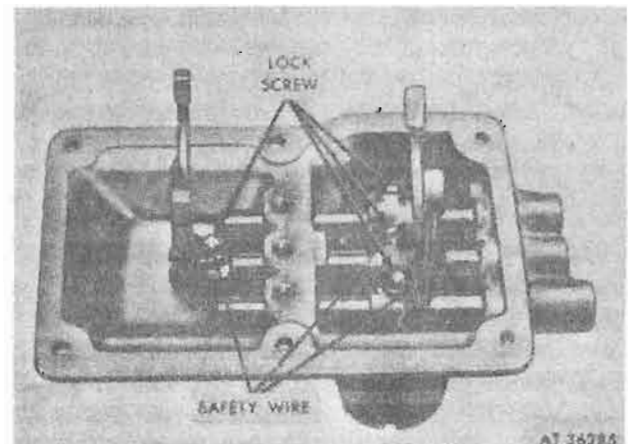

Figure 8-90. Shifter fork and gate lock screws and safety wires.
b. Turn housing over and place shifter shafts in neutral position. Cut and remove four safety wires securing shifter fork and gate lock screws. Remove screws (fig. 8-90).
m. Install four lock screws securing shifter forks and gates to shifter shafts; tighten screws to 12-15 lb.-ft., and safety wire screws in position. Refer to figure 8-90.